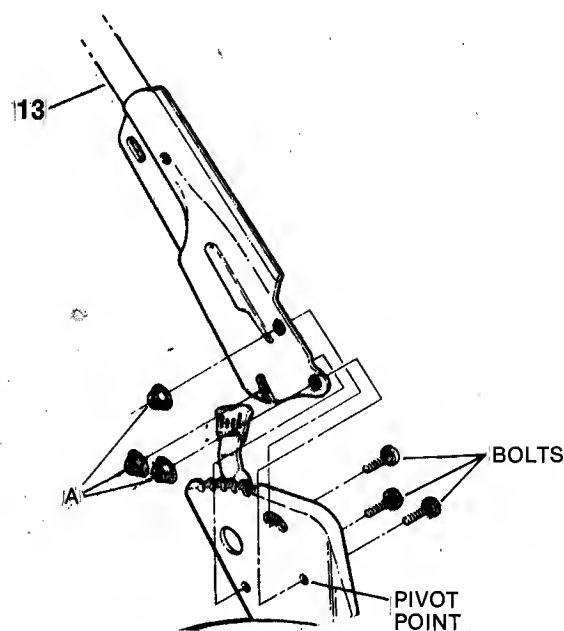

FIG. 19-HANDLE HEIGHT ADJUSTMENT
To raise or lower handle (13), loosen the adjusting locknuts (A) on both sides of handle shown in FIG. 19. Reset handle to desired position and re-tighten the locknuts.